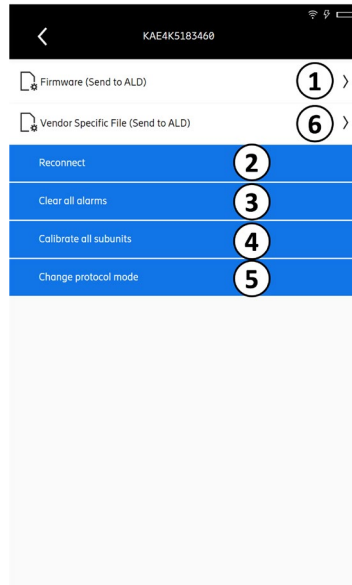

Fig. 57: Devices: Changing FlexRET properties
1. Tap ① in Fig. 57 to change the FlexRET protocol mode. Depending on the FlexRET you may have more or less possible protocol modes. The following page is shown: